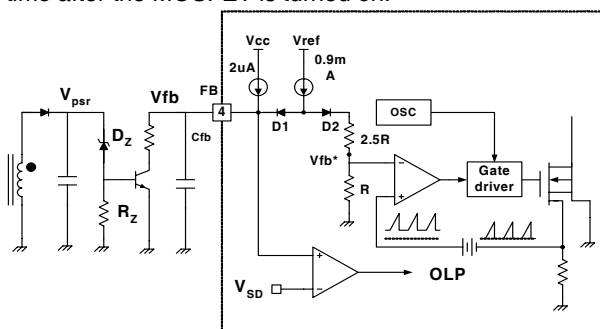

Figure 23. Pulse-Width Modulation (PWM) Circuit
2. Feedback Control: FS8S0765RCB employs primary side regulation, which permits elimination of feedback circuit components in the secondary side, such as opto-coupler and TL431. Figure 23 shows the primary side control circuit. The primary side regulation voltage (V_{psr}) is controlled to the breakdown voltage of zener diode (D_z). Because current mode control is employed, the drain current of the power MOSFET is limited by the inverting input of PWM comparator (V_{fb}^*). When MOSFET turns on, usually there exists high current spike in the MOSFET current caused by primary-side capacitance and secondary-side rectifier reverse recovery. To prevent premature termination of the switching pulse due to the current spike, the FPS employs leading edge blanking (LEB). The leading edge blanking circuit inhibits the PWM comparator for a short time after the MOSFET is turned on.